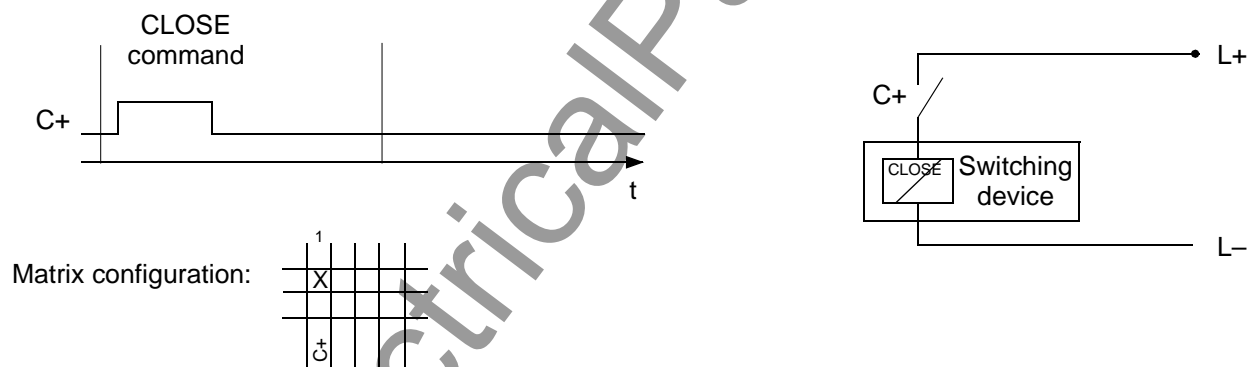

Figure 5-4 Single command with single contact
- ❑ Set for each device whether it should trip 1pole, 1 $\frac{1}{2}$ pole or 2pole, with single or double point indication, with or without feedback (see Table 5-1 and Figure 5-4 to 5-9). Thus the necessary quantity of the information to be processed is calculated and the type of command is determined.
For Figures 5-4 through 5-9, the following abbreviations apply: